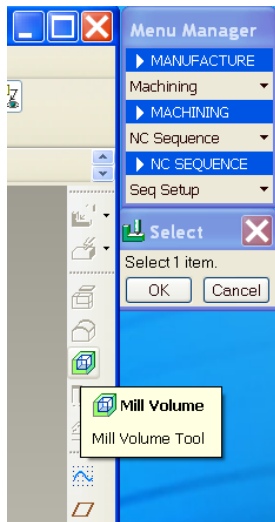

Figure 1.34
6. Select Mill Volume windows pop up as shown in figure 1.34. Since Mill Volume has not been created, there is no volume to select. Click